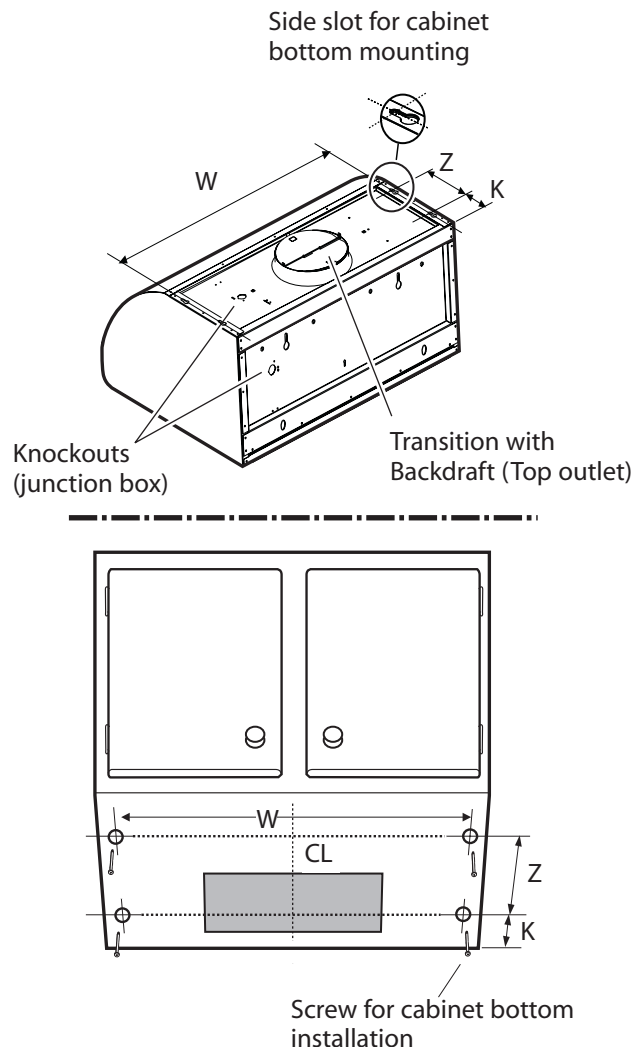

FIG. 8
2. Refer to the top of the hood and Fig. 8. Draw two lines, one at distance 'K' from the wall, the other one at distance 'Z' from the previous line. NOTE: These lines must be perpendicular to the cabinet centerline. Mark 4 points, two along each line at a distance of half W from the center line, to determine the screw locations.